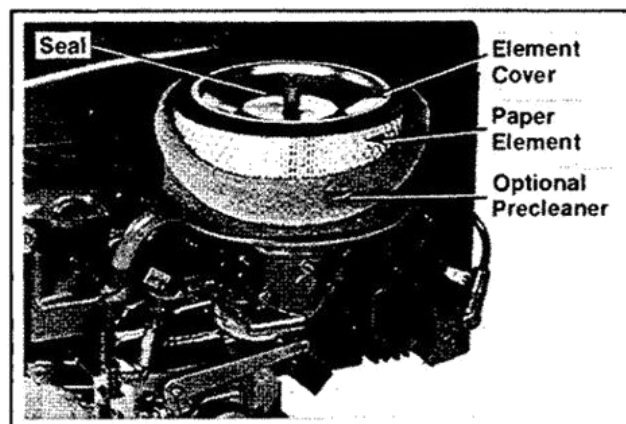

Figure 11-57. Installing Air Cleaner Element.
2. Install the paper element, optional precleaner, element cover, and element cover seal. Refer to Figure 11-57.